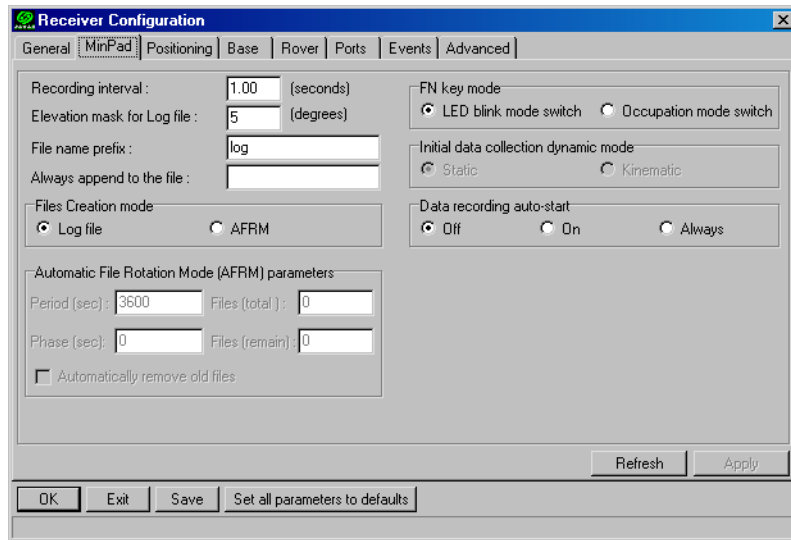

Figure 2-21. Receiver Configuration – MinPad Tab
5. Click the **MinPad** tab, set the following parameters and click **Apply** (Figure 2-21 on page 54). See the following pages for descriptions of these parameters.